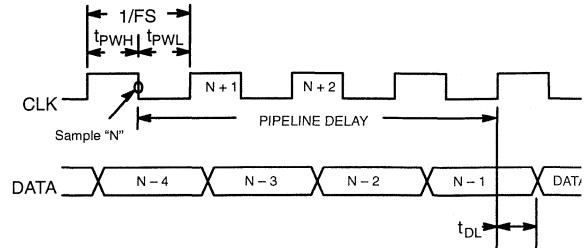

Figure 6. Data Available Timing
Clock Timing (See Figure 6.) ⁷
A full conversion (sampling V_{IN} , converting MSB & LSB, and performing any error correction) requires 3 1/2 clock cycles to complete (see Figure 6.) The pipelined architecture allows the chip to maintain a one conversion per cycle sample rate. Digital logic combines the MSB and LSB data and performs error correction to produce 8-bit output codes.
For systems that are battery powered, the MP87L76 has a power down feature to help extend battery life. When the voltage at the V_{RT} pin drops below 0.43 V, the chip goes into power down mode. In this state, conversions are halted, the outputs are 3-stated and I_{DD} drops to less than 100 μA . Then, when the voltage at the V_{RT} pin rises above 0.8 V, the chip will power up. Note that after power up, four clock cycles are required to get valid data at the digital outputs (see Figure 6.) One way to achieve power down is to disconnect or disable the buffer/amp driving V_{RT} , and let the internal reference resistance pull V_{RT} down. Remember, any bypass capacitors at V_{RT} will increase the time for V_{RT} to drop below 0.4 V.
Refer to Figure 6. for details on the data availability timing. The digital outputs should not drive long wires or buses. The capacitive coupling and reflections will contribute noise to the conversion. The output enable pin (OE) should not be left unconnected. If it is not controlled by an active signal, it must be tied to ground.